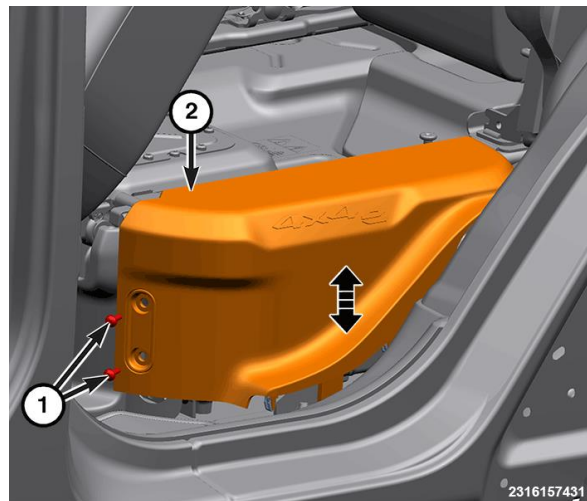

Figure 13 – HV Battery Side Trim
35. Remove the fasteners (1) from the side high voltage battery trim panels (2) (Figure 13).